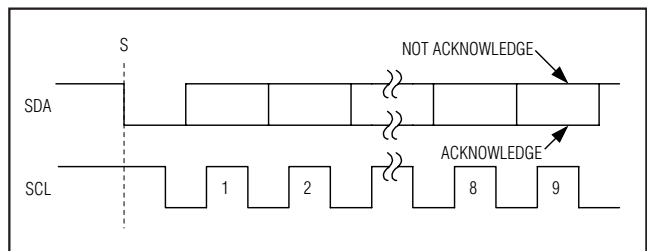

Figure 6. Acknowledge Bits
Data transfers are acknowledged with an acknowledge bit (A) or a not-acknowledge bit (Ā). Both the master and the MAX1136-MAX1139 (slave) generate acknowledge bits. To generate an acknowledge, the receiving device must pull SDA low before the rising edge of the acknowledge-related clock pulse (ninth pulse) and keep it low during the high period of the clock pulse (Figure 6). To generate a not-acknowledge, the receiver allows SDA to be pulled high before the rising edge of the acknowledge-related clock pulse and leaves SDA high during the high period of the clock pulse. Monitoring the acknowledge bits allows for detection of unsuccessful data transfers. An unsuccessful data transfer happens if a receiving device is busy or if a system fault has occurred. In the event of an unsuccessful data transfer the bus master should reattempt communication at a later time.